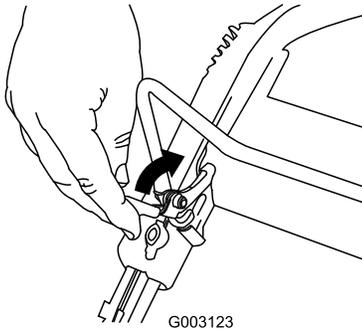

Figure 30
- Pull the control bar lock back (Figure 30).